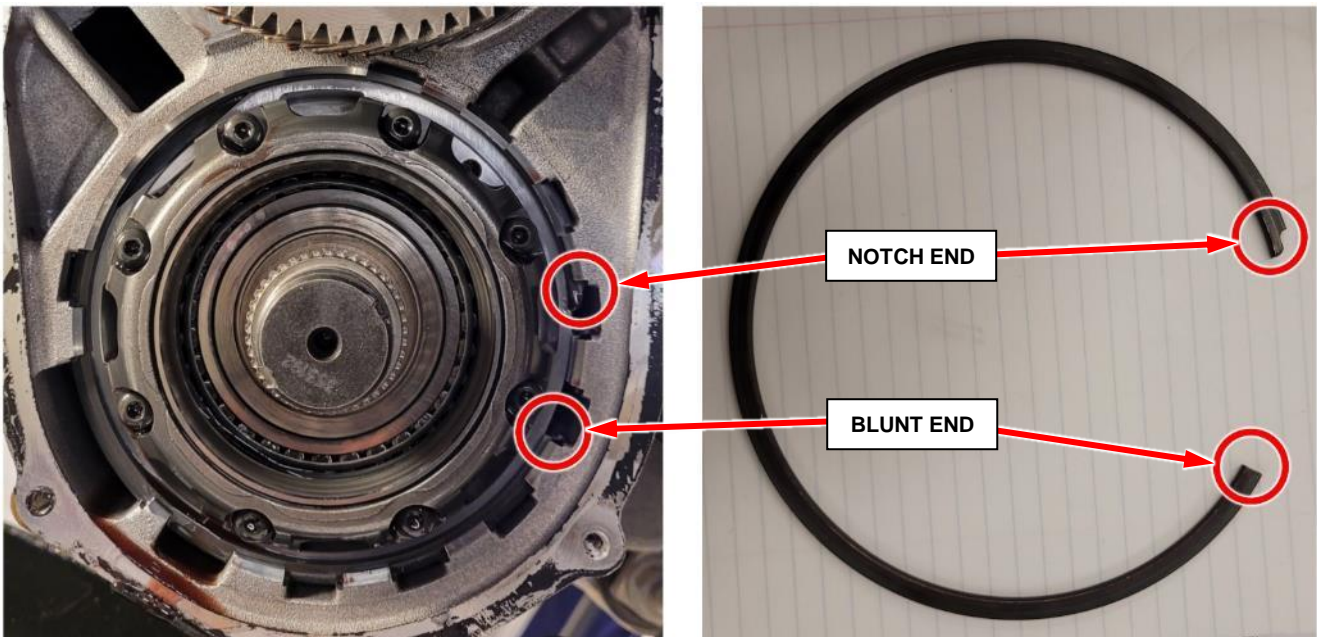

Figure 42 – Snap Ring Installation Orientation
CAUTION: Snap ring is bevelled and MUST be installed in the proper orientation. When looking directly at the snap ring, the notch end and blunt ends must be oriented as shown regardless of clock position of snap ring when installed in the transmission. The snap ring ends should be oriented so that the ends are in an open space rather than in the snap ring groove (Figure 42).
73. Obtain a **NEW** snap ring, then install that **NEW** snap ring to retain the underdrive compounder assembly. Ensure the snap ring is fully seated in the snap ring groove (Figure 42).